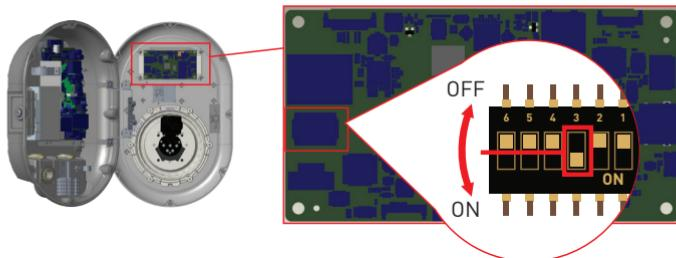

Figure-29
- If you want to enable the web configuration interface, third position of DIP switch should be in "OFF" position as shown in figure-29.
- If you want to disable the web configuration interface, third position of DIP switch should be in "ON" position as shown in figure-29.